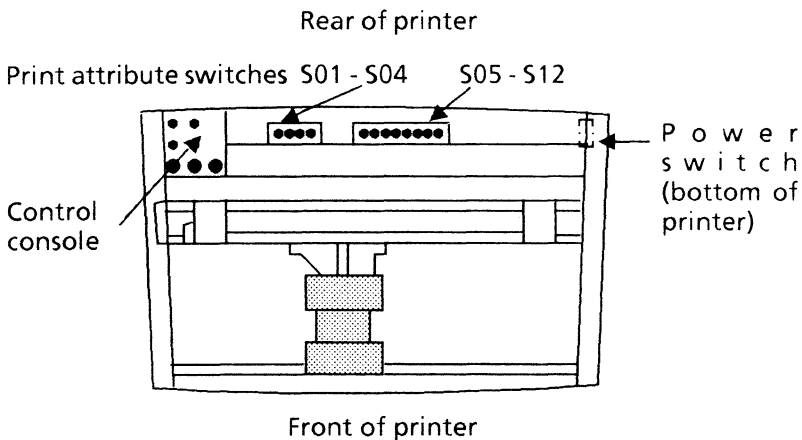

Figure 3-4 Local draft printer (top open)
2. Open the top cover of the local draft printer and identify the print attribute switches located along the top edge of the printer circuit board beside the operator control panel (Figure 3-4).
5. Locate the printer power switch on the bottom right rear side of the printer (refer to Figure 3-4).